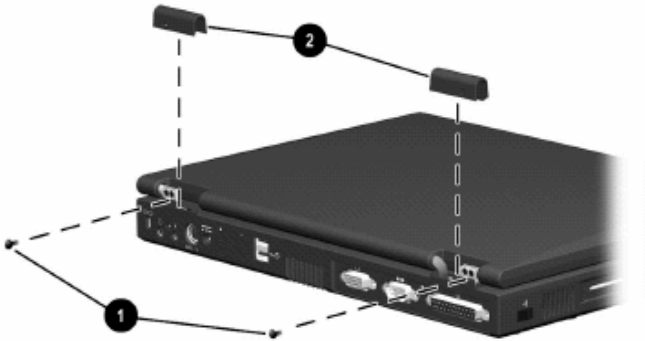

Figure 5-9: Removing the Hinge Covers
- 4. Remove the two M2.5 × 4.5 screws securing the hinge covers to the display hinges 1 (Figure 5-9).